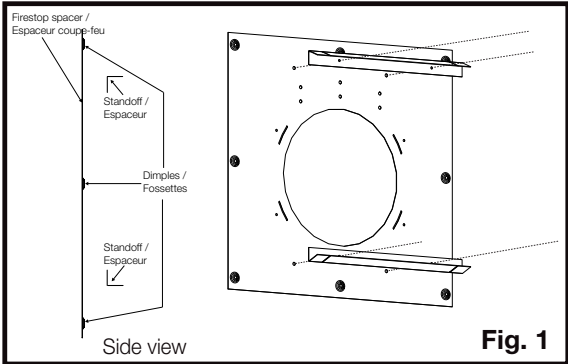

Fig. 1
- 1. Install standoffs onto the firestop spacer (Fig. 1).